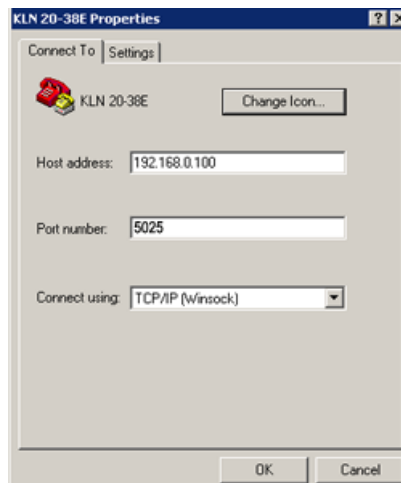

FIGURE 3-15. HYPER TERMINAL PROPERTIES
- a. If a Message box opens that says “Unable to Connect to 192.168.0.100 port 5025” click OK, then click File - Properties at the top menu bar of the HyperTerminal window to open the Properties Dialog Box (Figure 3-15).